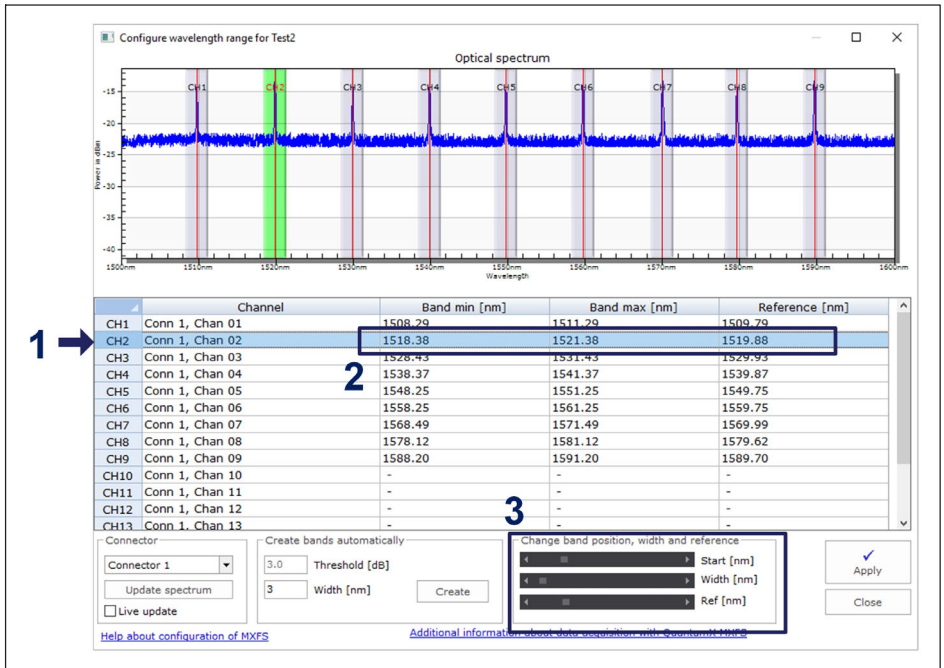

Fig. 4.11 Adjusting the bands
- ▶ Selecting the desired channel line (line will be highlighted in blue on the table and the band will be highlighted in green on the graph) - number 1 in Fig. 4.11.
- ▶ Writing on the table the minimum band value, maximum band value and reference wavelength - number 2 in Fig. 4.11 .
- ▶ Or adjusting the minimum band value, maximum band value and reference wavelength with the scroll bars at the bottom - number 3 in Fig. 4.11.